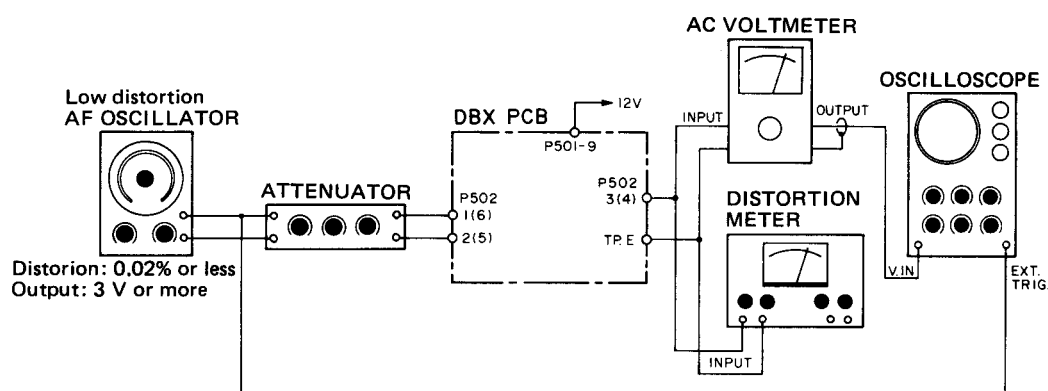

Fig. 5-13
4. Change the connections to Fig. 5-13, then feed a 1 kHz/-8 dB (308 mV) input signal to the INPUT terminal. Adjust R54/R64 (ENCODING LEVEL) so that AC voltmeter reads -8 dB (308 mV).